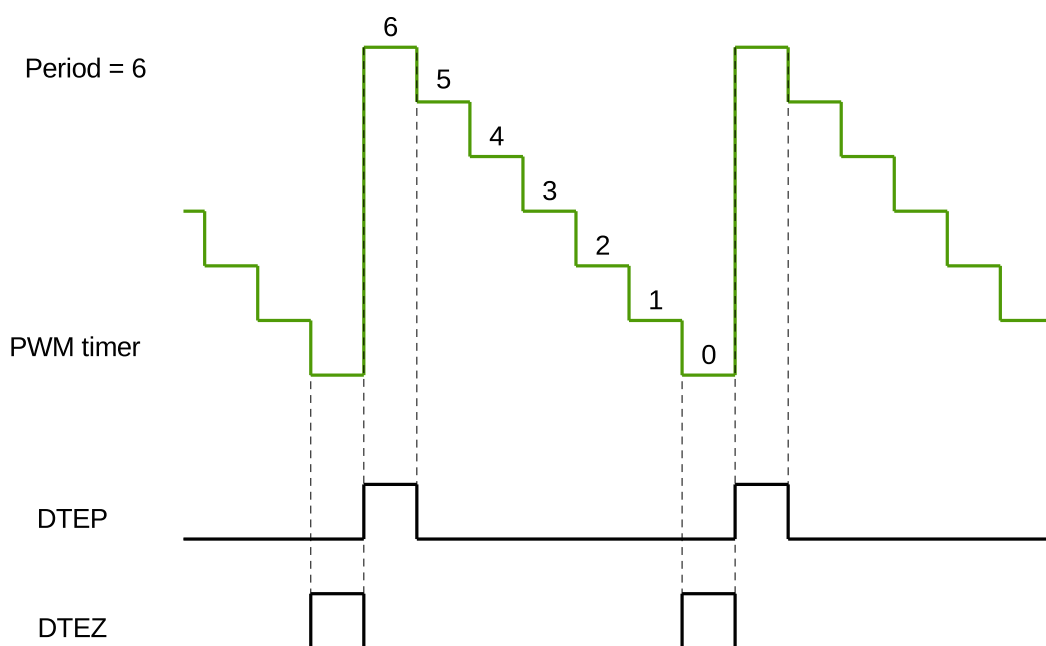

Figure 36.3-11. DTEP and DTEZ Generation in Count-Down Mode
2. DTEP and DTEZ do not happen simultaneously. When the PWM timer is in count-down mode, DTEZ will always happen one cycle earlier than DTEP, as demonstrated in Figure 36.3-11, so their action on PWM signals will not interrupt each other. When the PWM timer is in count-up-down mode, DTEZ will not occur.